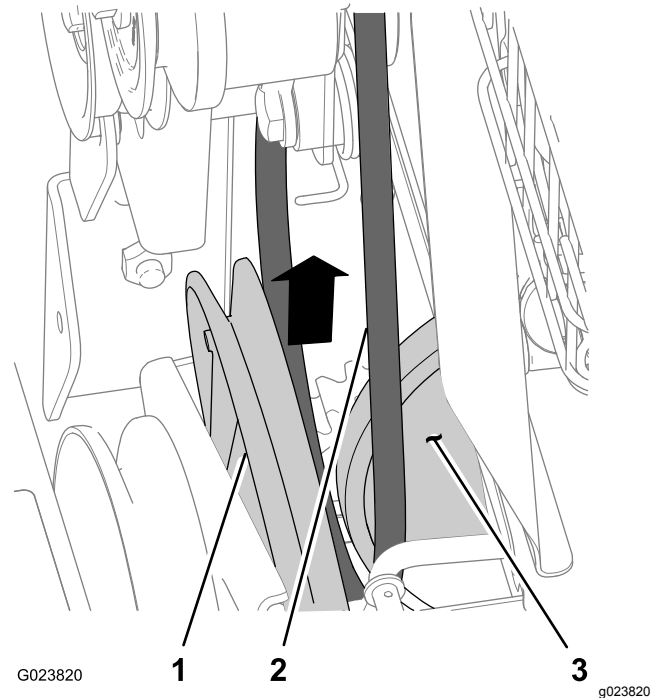

Figure 43
6. Slip the traction belt out of the groove of the traction pulley and up between the pulley and the friction wheel (Figure 43).
1. Align the traction belt between the friction wheel and the traction pulley (Figure 43).